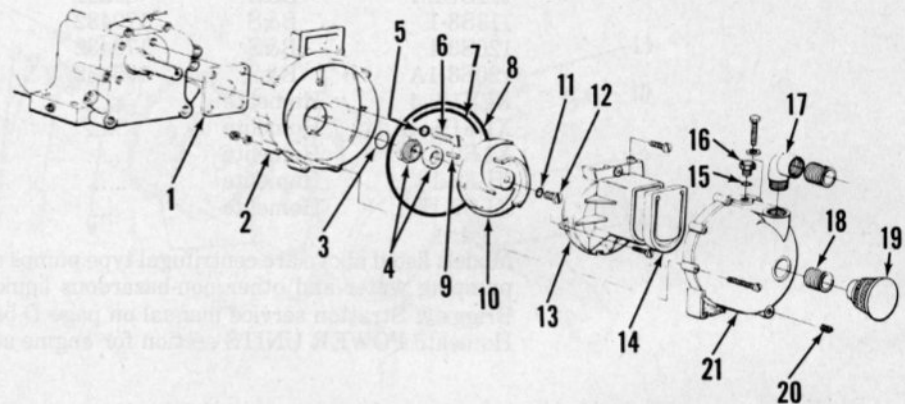

Fig. HL11-1—Exploded view of AP series centrifugal pump.
DISASSEMBLY AND REASSEMBLY. Disassembly and reassembly of pump is evident after inspection of unit and referral to exploded view in Fig. HL11-1. Impeller may be removed after unscrewing impeller retaining screw (12). Do not damage shims (1) when separating impeller housing (2) from engine. Inspect components and renew if excessively worn or damaged.